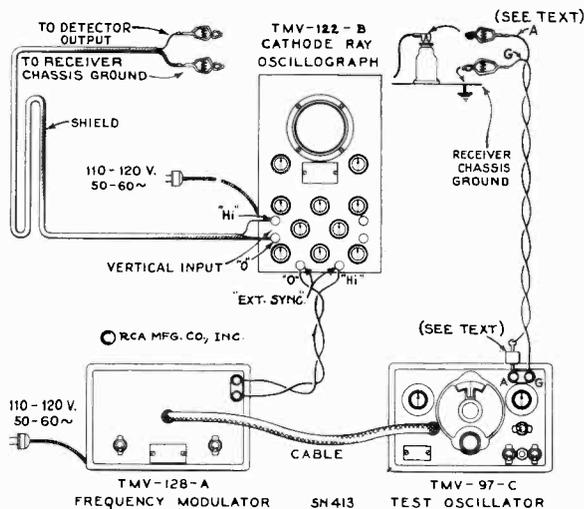
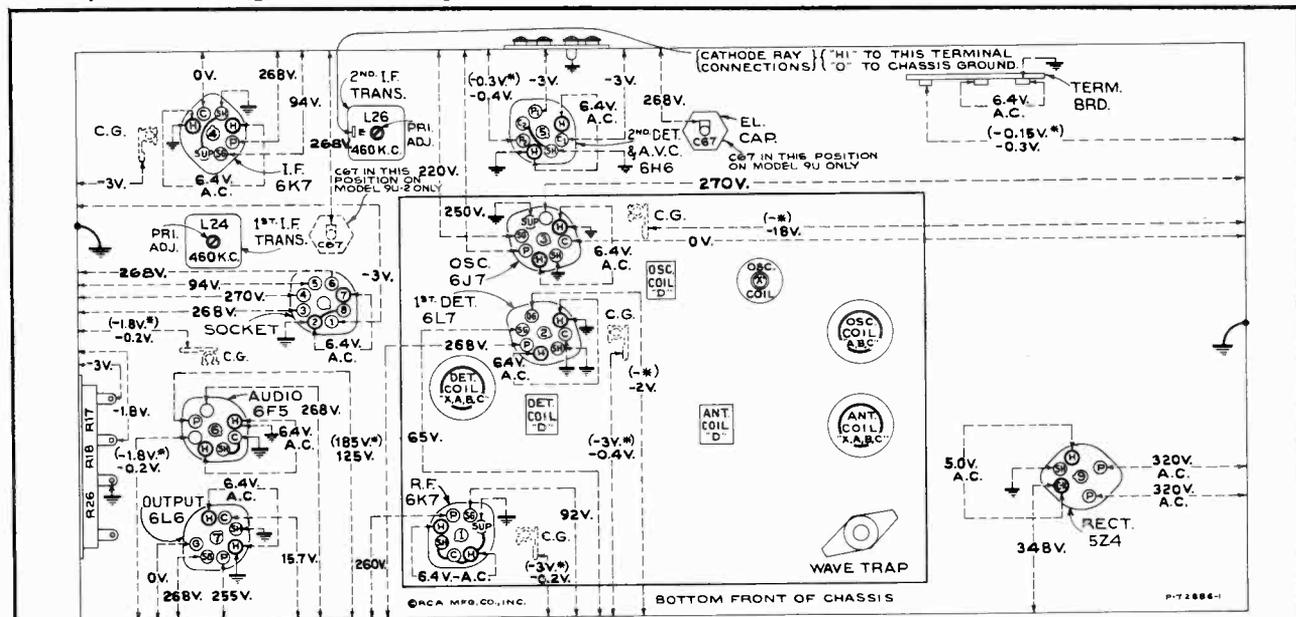

Figure 6—Alignment Apparatus Connections
Figure 11—Radiotron Socket Voltages, Coil, and I-F Trimmer Locations
Make alignment apparatus connections shown on figure 6. Remove the plug of the frequency-modulator cable from the test-oscillator jack. Connect the receiver chassis to a good external ground. Connect oscillograph "Vertical" input terminals as indicated on figure 11. Set oscillograph power switch to "On" and adjust "Intensity" and "Focus" controls to give a clearly defined spot, or line, on the screen. Set oscillograph "Ampl. A" switch to "On," "Vertical gain" control full-clockwise, "Ampl. B" switch to "Timing," "Range" switch to No. 2 position, and "Timing" switch to "Int." Place the "Sync." control, "Freq." control, and "Horizontal gain" control to about their mid-positions. For each of the following adjustments, the test-oscillator output must be regulated so that the image obtained on the oscillograph screen will be of the minimum size for accurate observation. The receiver volume-control setting is optional.
- (d) Set the receiver range selector to its "Short wave" position and its dial pointer to 20,000 kc. Adjust the test oscillator to 20,000 kc. If the vertical input cathode-ray connections were changed for adjustment (b) above, they should be restored to their original position as shown on figure 11. Adjust oscillator air-trimmer C13 until maximum (peak) output is reached. Two peaks may be found with this circuit. The peak with minimum capacitance (plunger near out) should be used. Tighten lock nut. Adjust detector air-trimmer C35 until maximum (peak) output is reached, while slightly rocking the gang tuning condenser back and forth through the signal. Two peaks may be found with this circuit. The peak with maximum capacitance (plunger near in) should be used. Tighten lock nut. Adjust antenna air-trimmer C3 until maximum (peak) output is reached while slightly rocking the gang tuning condenser back and forth through the signal. Two peaks may be found with this circuit. The peak with maximum capacitance (plunger near in) should be used. Tighten lock nut. Check the image frequency by changing the receiver dial setting to 19,080
chassis ground on figure 11 will assist in locating cause for faulty operation. Each value as specified should hold within $\pm 20\%$ when the receiver is normally operative at its rated line voltage. Variations in excess of this limit will usually be indicative of trouble in the basic circuits. To duplicate the conditions under which the voltages were measured requires a 1,000-ohm-per-volt d-c meter, having ranges of 10, 50, 250, 500, and 1,000 volts. Use the nearest range above the specified measured voltage. A-c voltages were measured with a corresponding a-c meter.